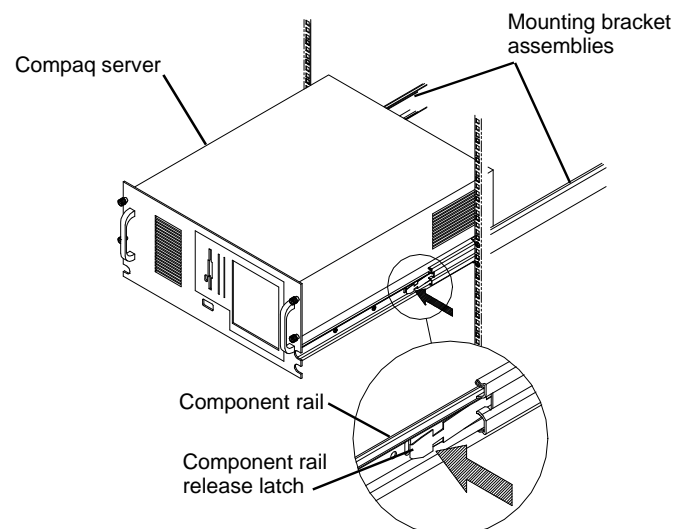

Figure12
2. Depress the component rail release latch on both sides of the server and slide the server all the way into the rack. See **Figure 12**.